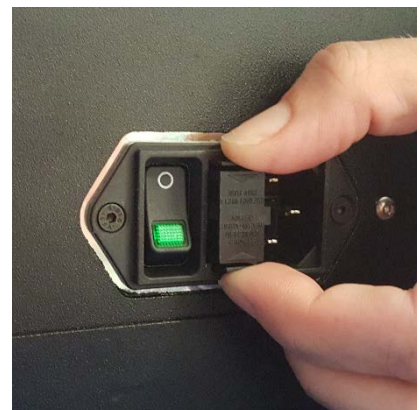

Figure 19. Images Depicting Fuse Replacement.
3. Use a flathead screwdriver to unclip the top bracket on the fuse holder (top image in Figure 19).
4. Use the same screwdriver to unclip the bottom bracket on the fuse holder (middle image in Figure 19) and pull the fuse towards you.
5. Grab the fuse holder with your fingers (bottom image in Figure 19) to remove it.